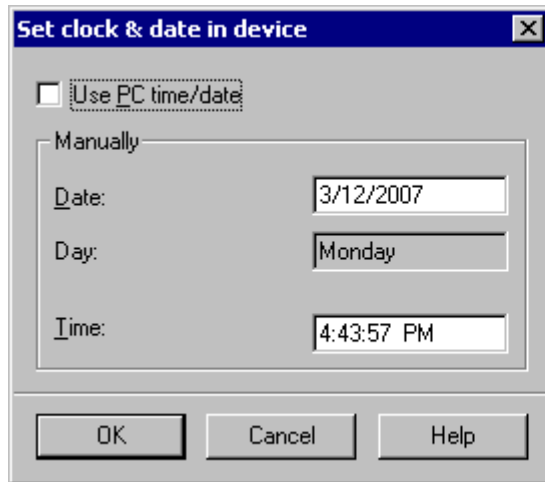

Figure 6-26 Set clock & date in device dialog box
- ❑ Enter date and time in the corresponding boxes. Observe the correct notation (see Figure 6-26, page 272).